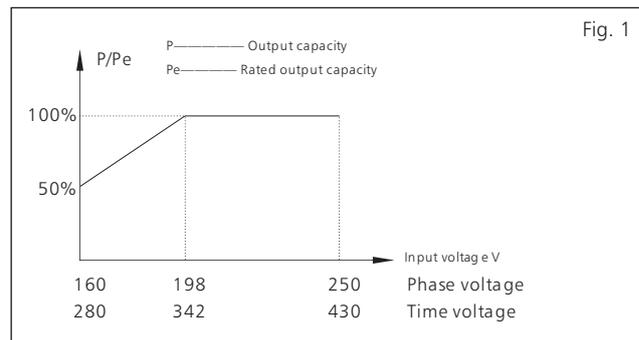

Fig. 1
The relation between output capacity and input voltage refer to as fig. 1
- When the input phase voltage is lower than 198V, the output capacity of voltage regulator will be reduced, then the loads should be reduced correspondingly, otherwise, it may be overloaded; when the output voltage is 110V, then the output capacity should not be beyond 50% of rated capacity, otherwise, it may be overloaded. Please refer to fig.1 for detail characters.